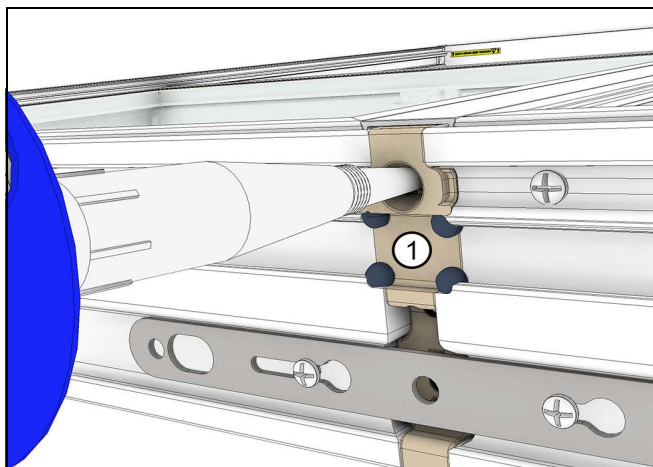

Figure 13
1. Using a high quality sealant loaded into a caulking gun, insert the nozzle into the injection hole on the mull plug and inject with sealant. You will know there is enough sealant injection when overflow appears in the nailing fin channel below the injection hole. See Figure 13.